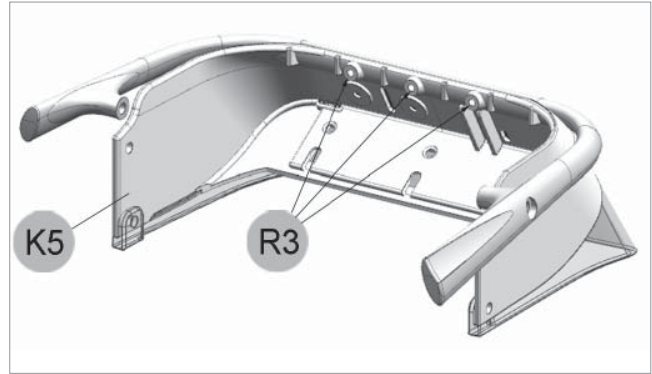

Fig. 57
- 2) Loosen the 3 screws (R3) and remove the rollbar (R) (Fig. 57).